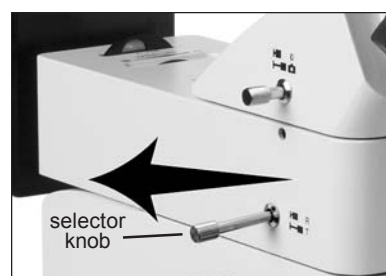

Figure 36
24. Check to see that the illuminator selector knob is pulled out all the way (“T”) (figure 36).